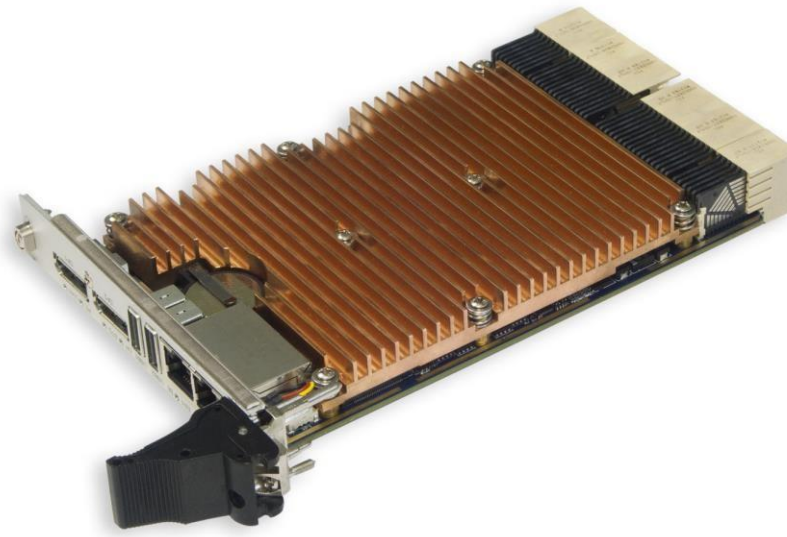

Fig. 1-3: CPC512 module with the installed copper heatsink R1 (4HP)
- Copper enlarged-area heatsink for operation with Quad Core Intel i7-3612QE CPU 2.1 GHz in commercial temperature range (see Fig. 1-3).